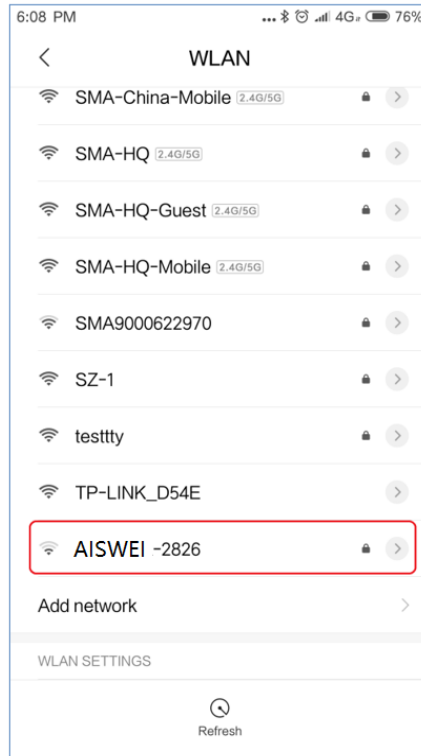

Figure 2-3-1 Wireless configuration
Step 1: Open the WIFI management page of the mobile phone system and find the WIFI hotspot named AISWEI-XXXX. As shown in Figure 2-3-1.